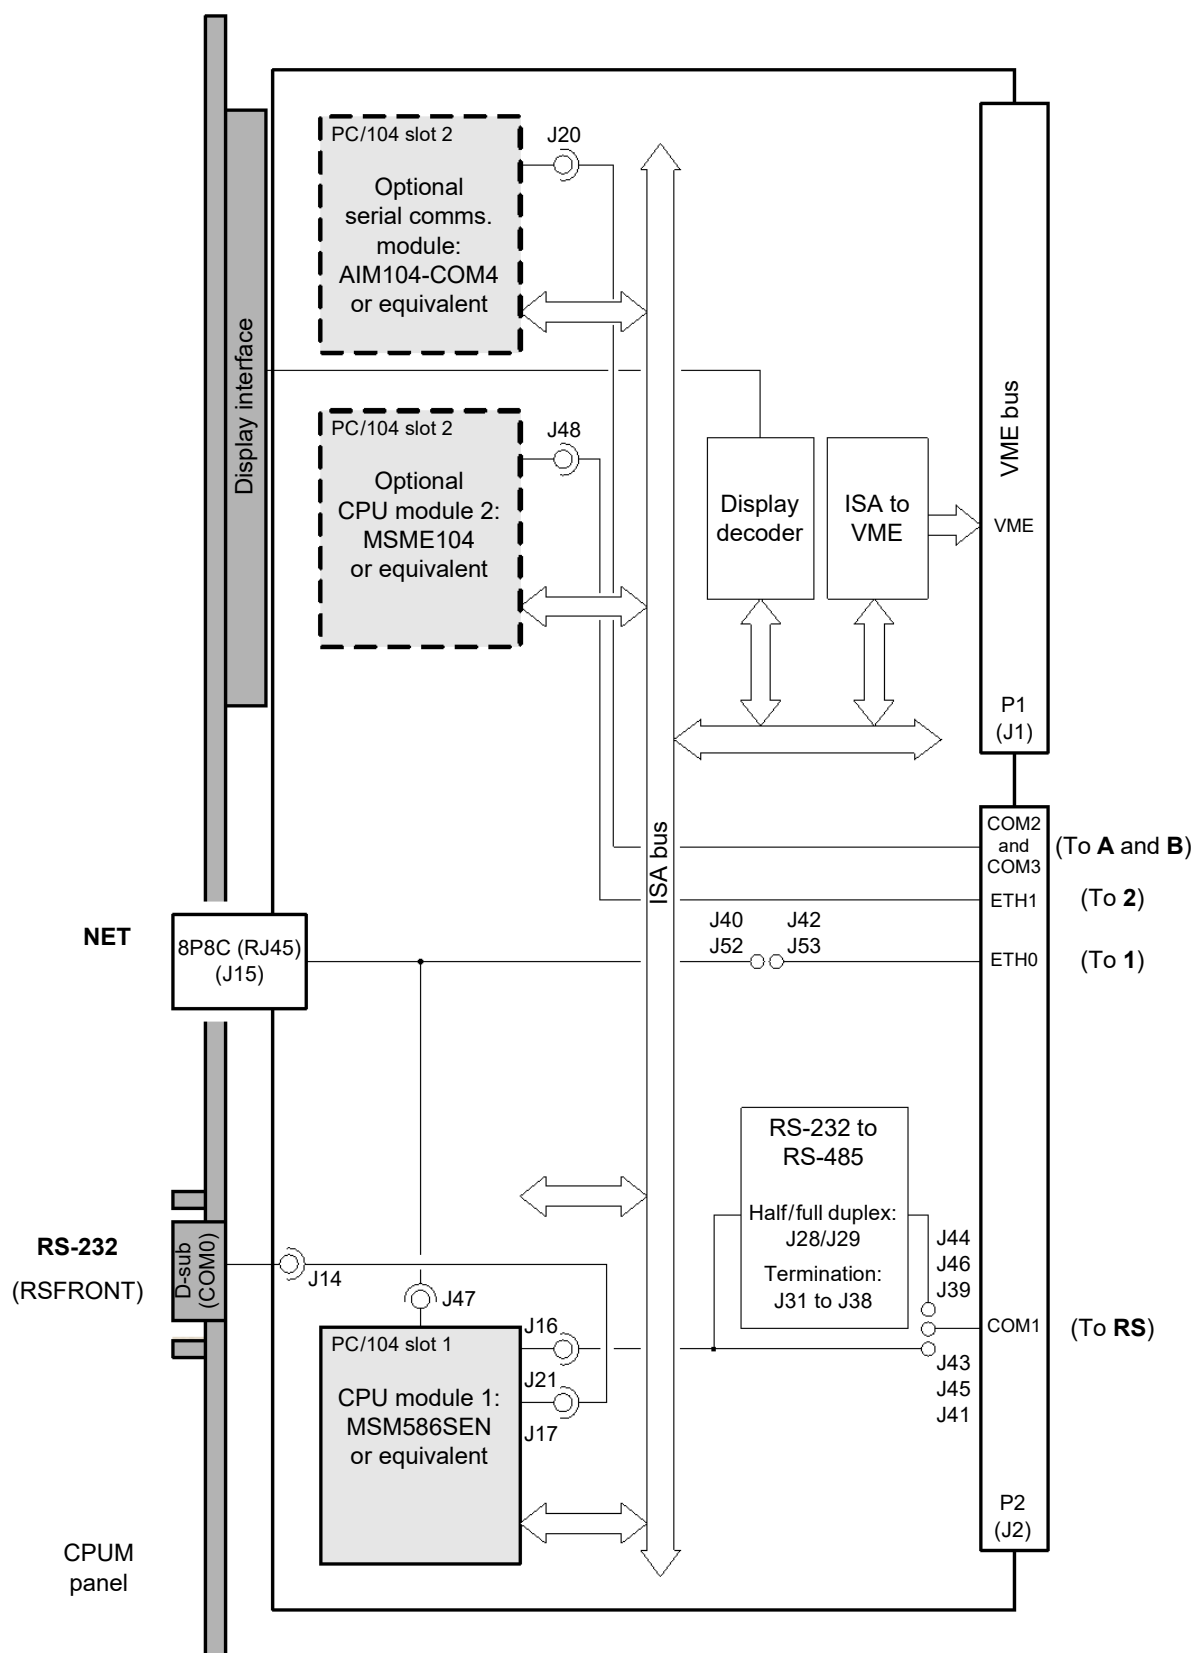

Figure 6-3: Block diagram of CPUM card fitted with the MSM586SEN or equivalent CPU module (PNR 200-595-075-HHh or earlier)
- Earlier versions of the CPUM card (PNR 200-595-075-HHh or earlier) fitted with the MSM586EN or equivalent CPU module (see Figure 6-3).
- Earlier versions of the CPUM card (PNR 200-595-075-HHh or earlier) fitted with the MSM586EN or equivalent CPU module (see Figure 6-3). This is an Ethernet redundant version of the card.